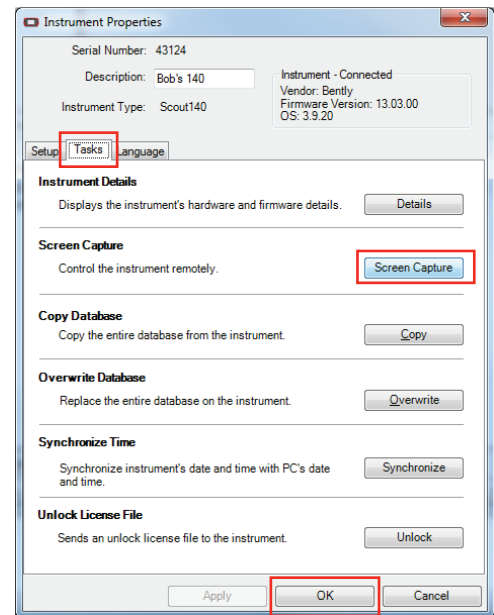

FIGURE 3: Selecting the Screen Capture operating mode from the Instrument Properties dialog.
3. From the Tasks tab, click **Screen Capture** then click **OK** (Figure 3).